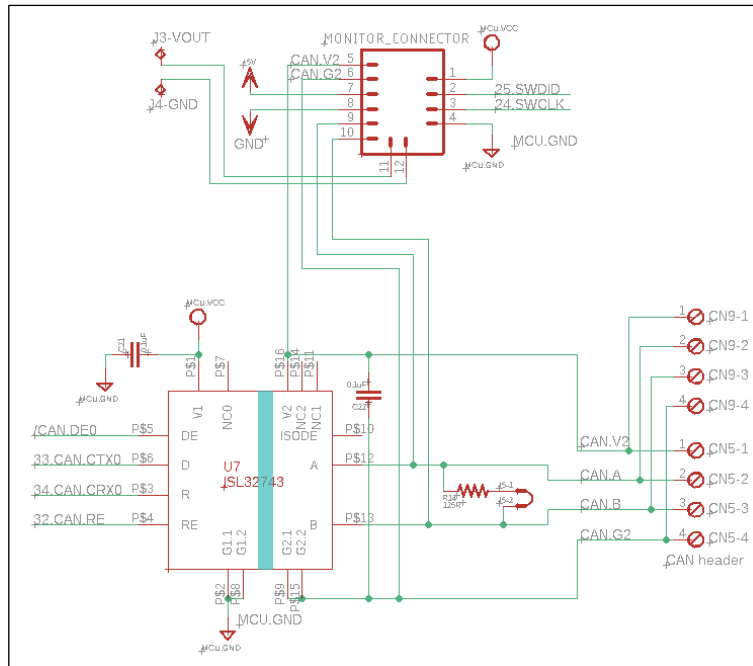

Figure 4-5 RA2L1 CAN Sensor EVB/CAN Transceiver Circuit
- b. BUS terminal (V2/G2): As shown in Figure 4-5, CAN.V2/CAN.G2 are from MONITOR\_CONNECTOR or CAN header (CAN Bus connector1/2).
Since the EVB adopts isolated CAN BUS transceiver, when more than 2 RA2L1 CAN sensor EVBs are connected on CAN BUS, one RA2L1 CAN sensor EVB is required to provide the isolated side power V2 / G2 of ISL32743 (see Figure 4-5). This board must be combined with RA4M1 monitor EVB. Through the power supply of RA4M1 monitor EVB, the isolated side power supply V2 / G2 of all ISL32743 on the bus is provided. The set of boards (RA2L1 CAN sensor EVB + RA4M1 monitor EVB) providing isolated side power supply is the host. The remaining RA2L1 CAN sensor EVB without isolated side power supply is slave.